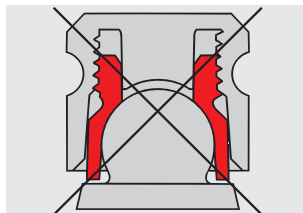

Fig. 9
**Caution:** The lamellae retention insert must not protrude from the housing (Fig. 9).